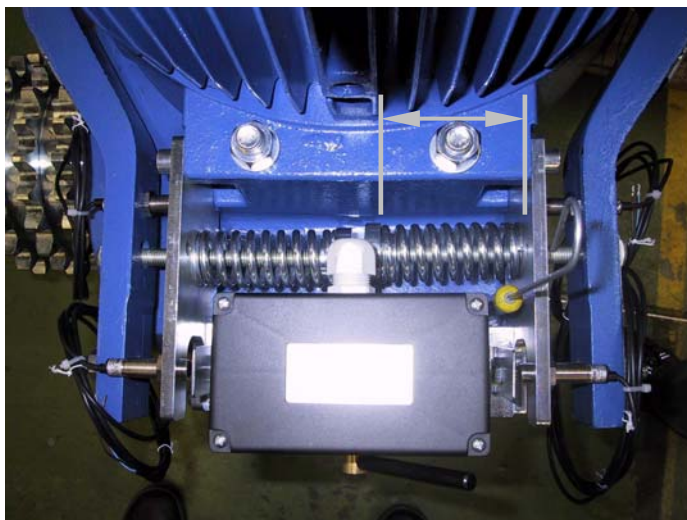

Fig. 8
3. Spring pressure preset of spring length L between the two surfaces on 88mm, is adjusted during the TÜV field inspection (see Fig. 8).